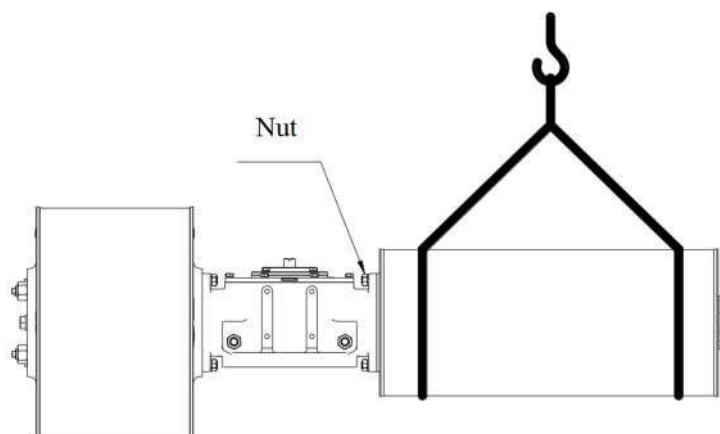

Figure 8
- 7) Take the necessary lifting measures for the spring module, refer to Figure 8. Unscrew the nut between the spring module and the drive module and remove the spring module. Note: Do not lose or damage the seal O-ring between modules.
the drive module (as shown in Figure 8), and tighten the nut;